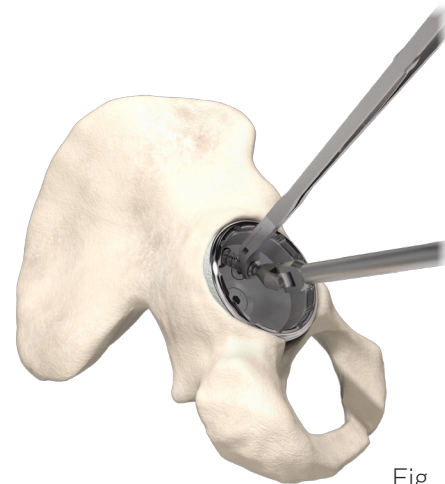

Fig. 14
6. The appropriate length of Trinity™ screw (15, 20, 25, 30, 35, 40, 45, 50, 55, 60 or 65mm) can then be inserted through the shell and into the cancellous bone using the UJ screwdriver*. Screw forceps can be used to hold the screw while inserting it (Fig 14).